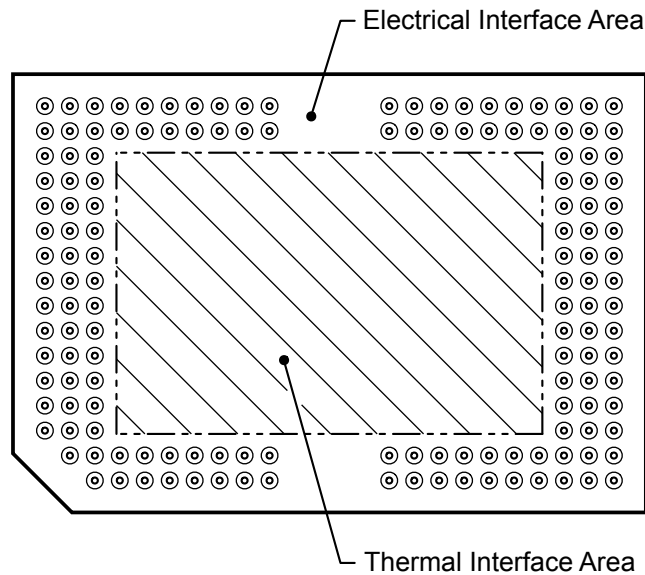

Figure 5-13. System Mounting Interface Loads
(1) The load should be uniformly applied in the corresponding areas shown in Figure 5-13.